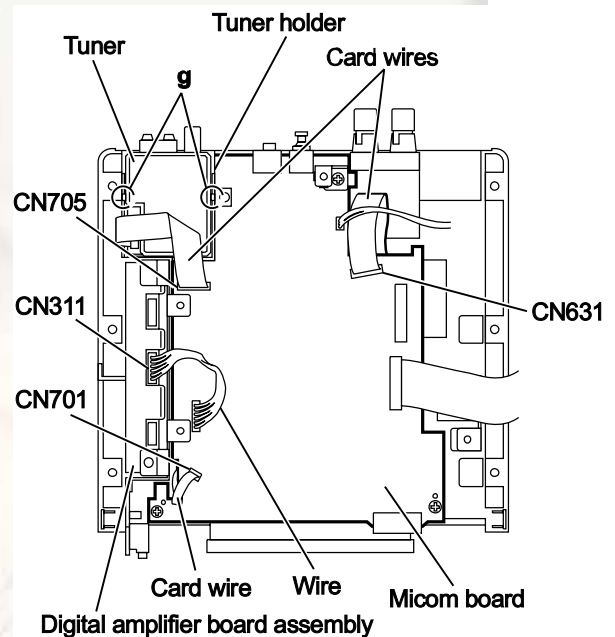

Fig.16
3.1.9 Removing the micom board (See Figs.16 and 17)
- From the top side of the main body, disconnect the card wires from the connectors (CN631 and CN701) on the micom board. (See Fig.16.)
- Disconnect the card wire from the connector CN705 on the micom board and take out the tuner after releasing the claws g of the tuner holder. (See Fig.16.)
- Disconnect the wire from the connector CN311 on the digital amplifier board assembly. (See Fig.16.)